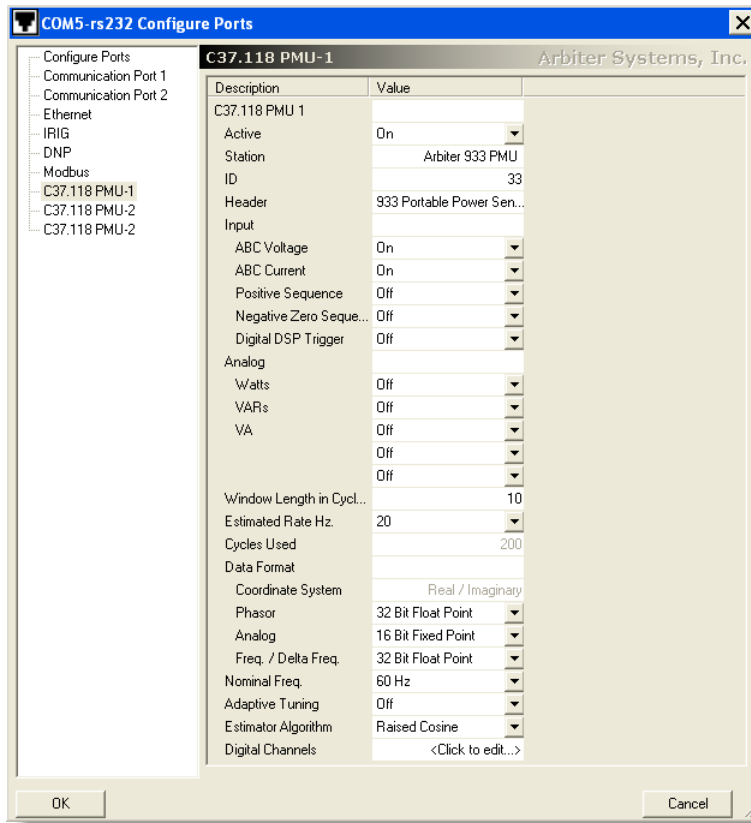

Figure 6.5: Configure Phasors, PMU-1
When dealing with phasor data, PSCSV is both a configuration and data acquisition tool. It is designed to configure the 933A to produce *C37.118-type* data. This means that while data is very similar to C37.118, *the 933A does not have an Ethernet port and is not C37.118 compliant*. See Figure 6.5 to better identify the Phasor Terminology listed below.
Rate (R) times the number of cycles (or Window Length, W). Cycles Used =  $R \times W$ . For example in the screen shot from Figure 6.5, this value is  $20 \times 10 = 200$ . Maximum values for Cycles Used are 1440 for 60 Hz and 1200 for 50 Hz.